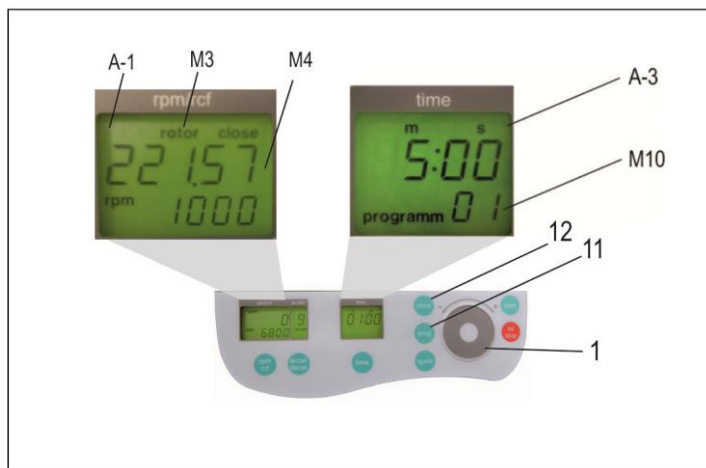

Figure 15
Put the rotor into the centrifuge. By pressing the key, "prog" (11), in the display "time" (A-3) appears the word "program", (see Figure 15). With the control field (1), choose the desired program number.
If a program number is already occupied, in the display "rpm/rcf" (A-1), the words "rotor" (M3) and e.g. "221.57" (M4) will appear, (see Figure 15). Free program numbers will appear as 0.